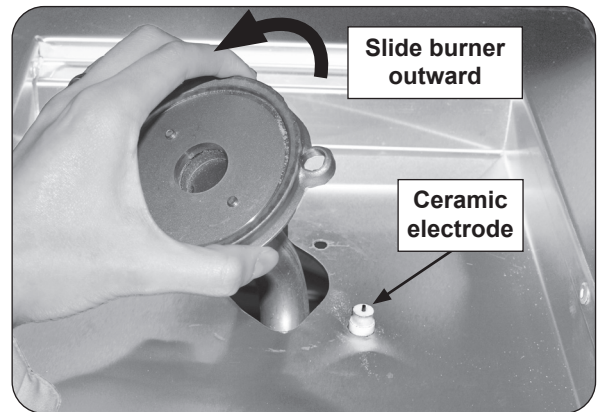

Fig. 33-2 Remove burner
5. Carefully lift the burner up and out, clearing the ceramic electrode (see Fig. 33-2), and pulling the burner tube away from the injector located on the left side of the unit.